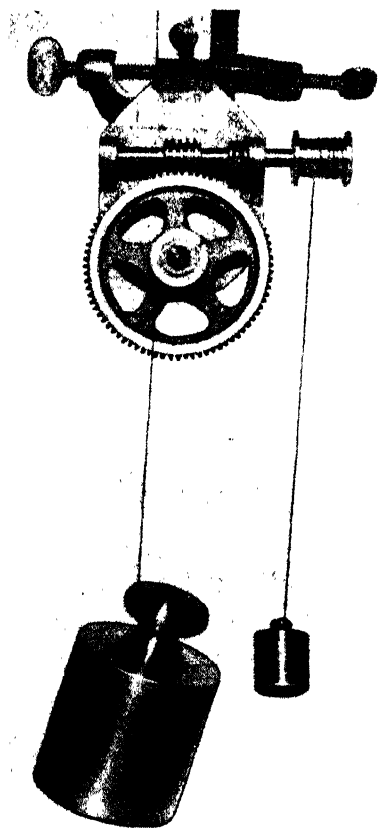

FIG. 136. WORM GEAR.
Set up the worm gear as shown in Fig. 136. Place a 2000g. load on the drum on the worm wheel. Place weights on the string attached to the drum on the worm in order to determine the effort needed to lift the 2000g.
11. Calculate the ideal M. A. of the machine, Fig. 136.